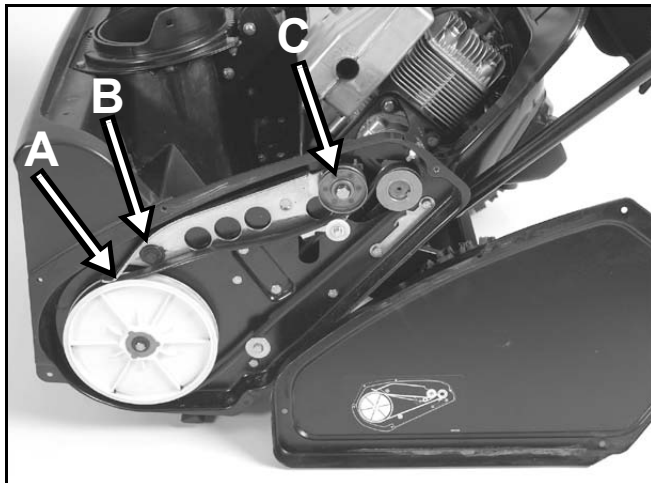
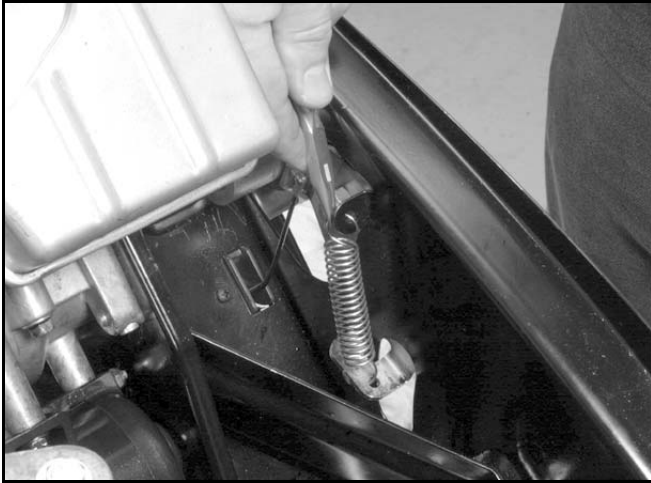

Figure 36
Figure 46
A multigrooved V belt transfers power from the engine pulley to the rotor drive pulley. Belt clutching is controlled by a cable connected to a bail on the upper handle. When engaged, the combination idler/brake arm rotates to disengage the brake and move the idler to tighten the belt (Figure 36). When the bail is released, a spring pulls the idler away from the belt and engages the rotor brake. See Figure 46 for location of spring.
8. To remove the brake arm, first unhook the brake spring (Figure 46). The brake arm is attached by a single shoulder bolt through the side plate (Figure 47). Remove the locknut and large washer. Pull the brake arm off carefully as there is a pivot washer between the brake arm and side plate.